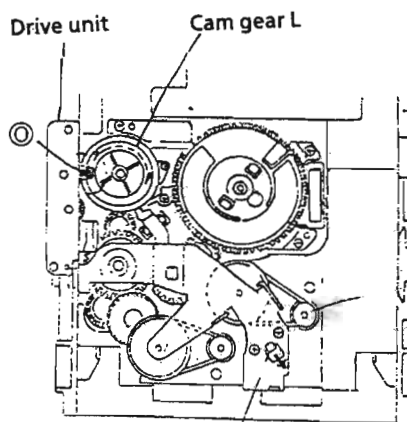

Fig. 2-15
2. Rotate the Cam gear L so that the drive unit's pawl (O) is positioned as shown in Fig. 2-15.